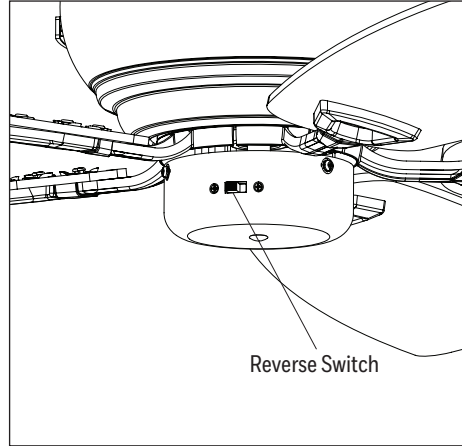

Figure 3.2
2. Use the reverse switch located on the switch housing to optimize your fan for seasonal performance. **In warmer weather**, push the reverse switch left which results in downward airflow creating a wind chill effect. **In cooler weather**, push the reverse switch right which results in upward airflow that will help move hot air of the ceiling (Figure 3.2).